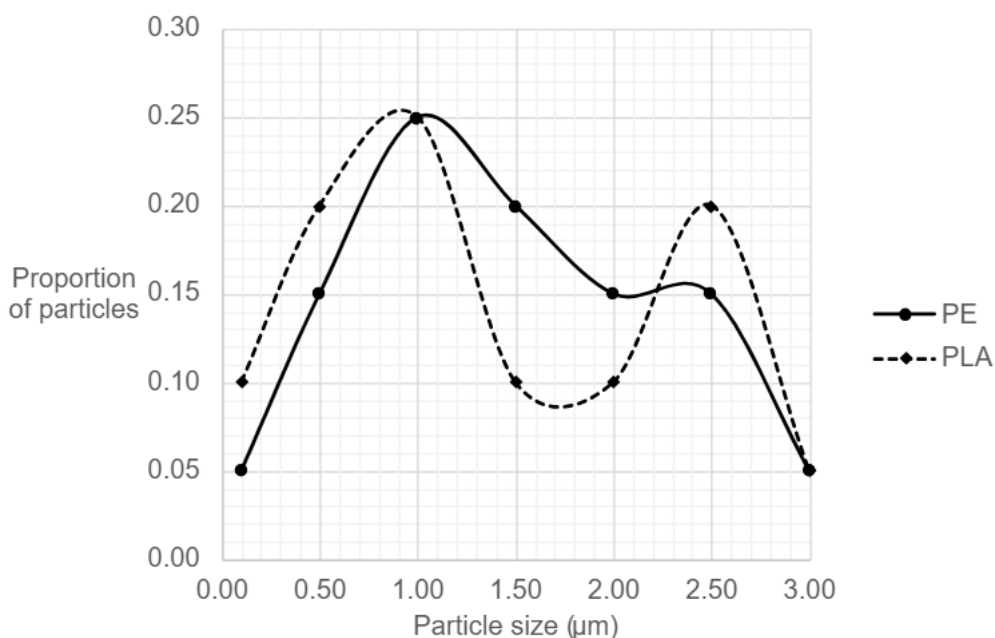

Fig 5.2
A researcher studied the degradation of samples of PE and PLA in an aqueous condition with a similar salt concentration as seawater and with exposure to UV light after 2 years. He then determined the proportion of particles with various sizes of $\leq 3 \mu\text{m}$, as shown in Fig 5.2.
- (i) With reference to Fig 5.2, explain whether you would expect PE or PLA to degrade and generate more microplastics in the sea.